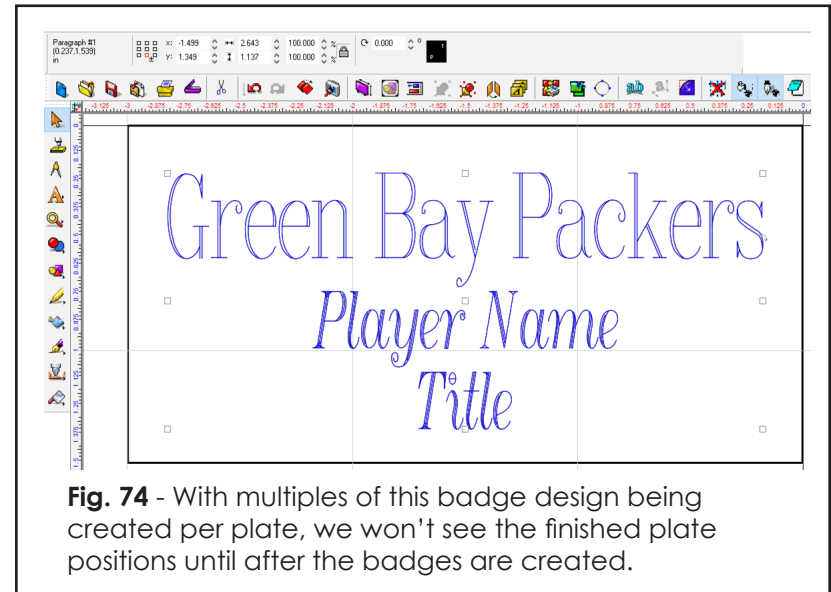

Fig. 74 - With multiples of this badge design being created per plate, we won't see the finished plate positions until after the badges are created.
3. Select all the elements of your plate design (Fig. 74). The objects selected will be replicated for each badge.